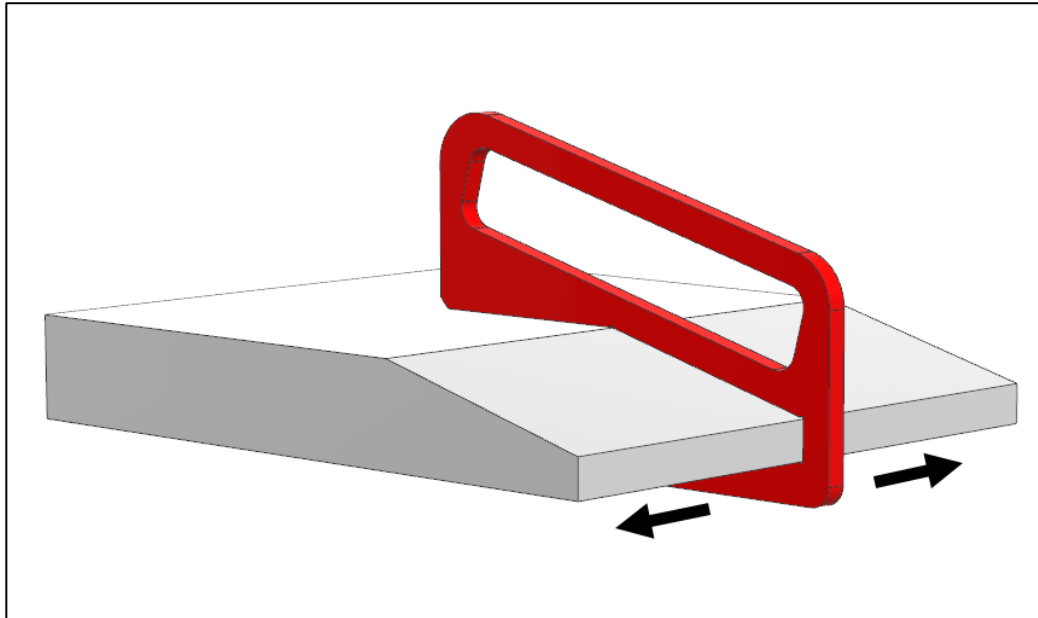

Figure 6 Excerpt from PGP0051
2.2.3. After bevel cut is completed, clean the profile and inspect the Lip using Gauge SGM50-LP as per the procedure PGP0051. Refer Figure 6. Perform inspection at various locations along leading edge. Re-work the Lip in areas of interference.